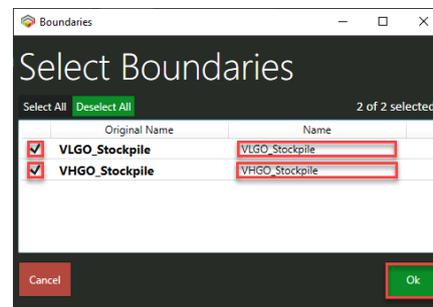

Figure 66. Import boundary selection dialog.
5. Where multiple boundaries are stores in a single DXF the user can select any or all boundaries via the *Boundaries Selection* dialog (Figure 66).